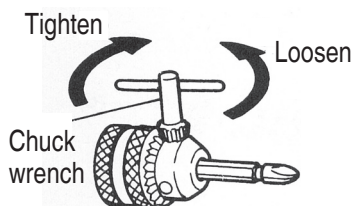

Fig. 4B
- Always use a chuck wrench to install a driver bit or drill securely. As three chuck wrench holes are provided, tighten the chuck evenly. (See **Fig. 4B**)